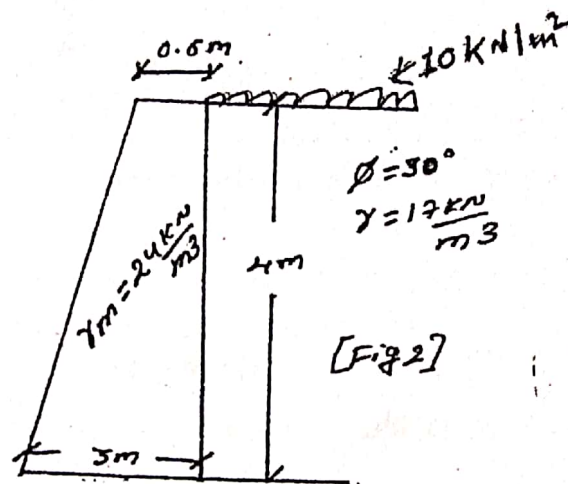

Fig. 2
- (b) Check stability of masonry retaining wall against sliding, overturning & bearing [fig2]. Safe bearing capacity of soil is 200 kN/m^2 & coefficient of friction is 0.4. 8